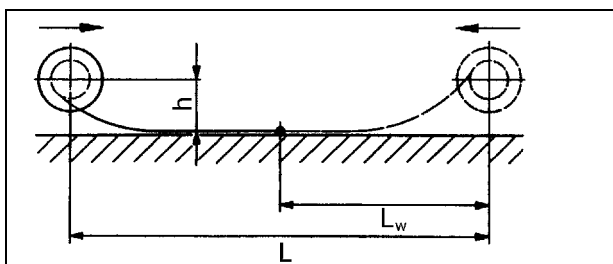
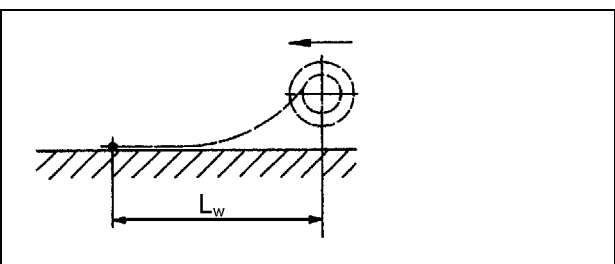

Fig. 1: Centre feeding
Fig. 2: End feeding
3.1 Cable pay-off: horizontally, reel on the movable machine (cf. Fig. 1 and fig. 2)